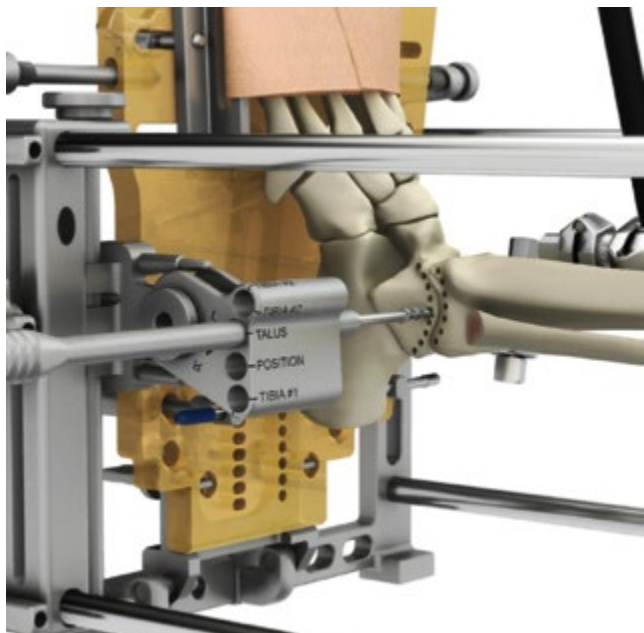

Fig. 48
- Insert the burr assembly through the “Talus” hole in the Cutting Guide until the tip of the Burr contacts the lateral side of the talus at the top of the talar dome (Fig. 48).